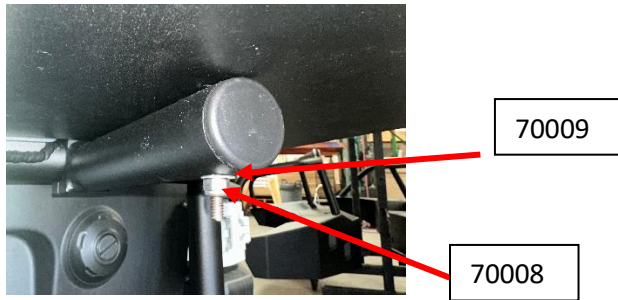

Figure 9: support post mounting
24. Mark and drill 5/16" holes through the back of your box into the cross pipe in the middle of the base unit, and through the bottom of the box into the support posts. Secure box to rail using the hardware shown in figures 9 and 10 below.